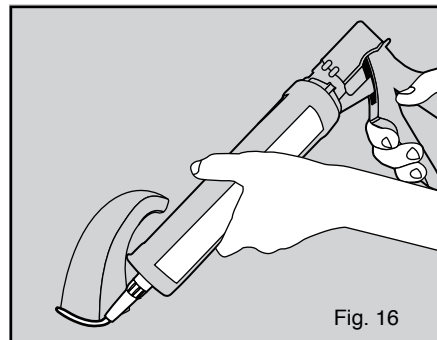

Fig. 16
17. **IMPORTANT** – Apply a bead of clean silicone caulk around the perimeter of the support shaft / head assembly (see figure 16).